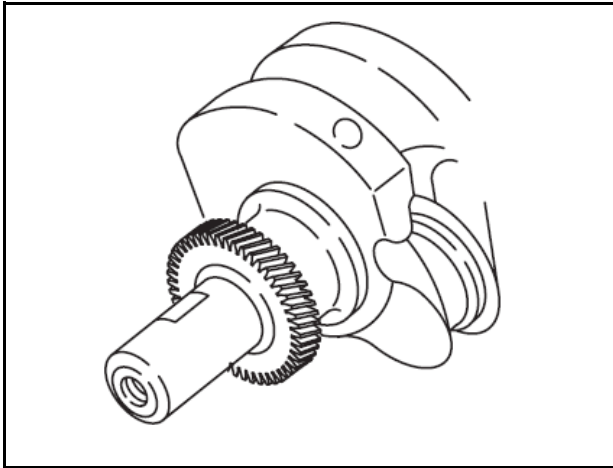

Fig.3-Checking Timing Gear
3. Check crankshaft timing gear teeth for damaged teeth, Fig. 3.